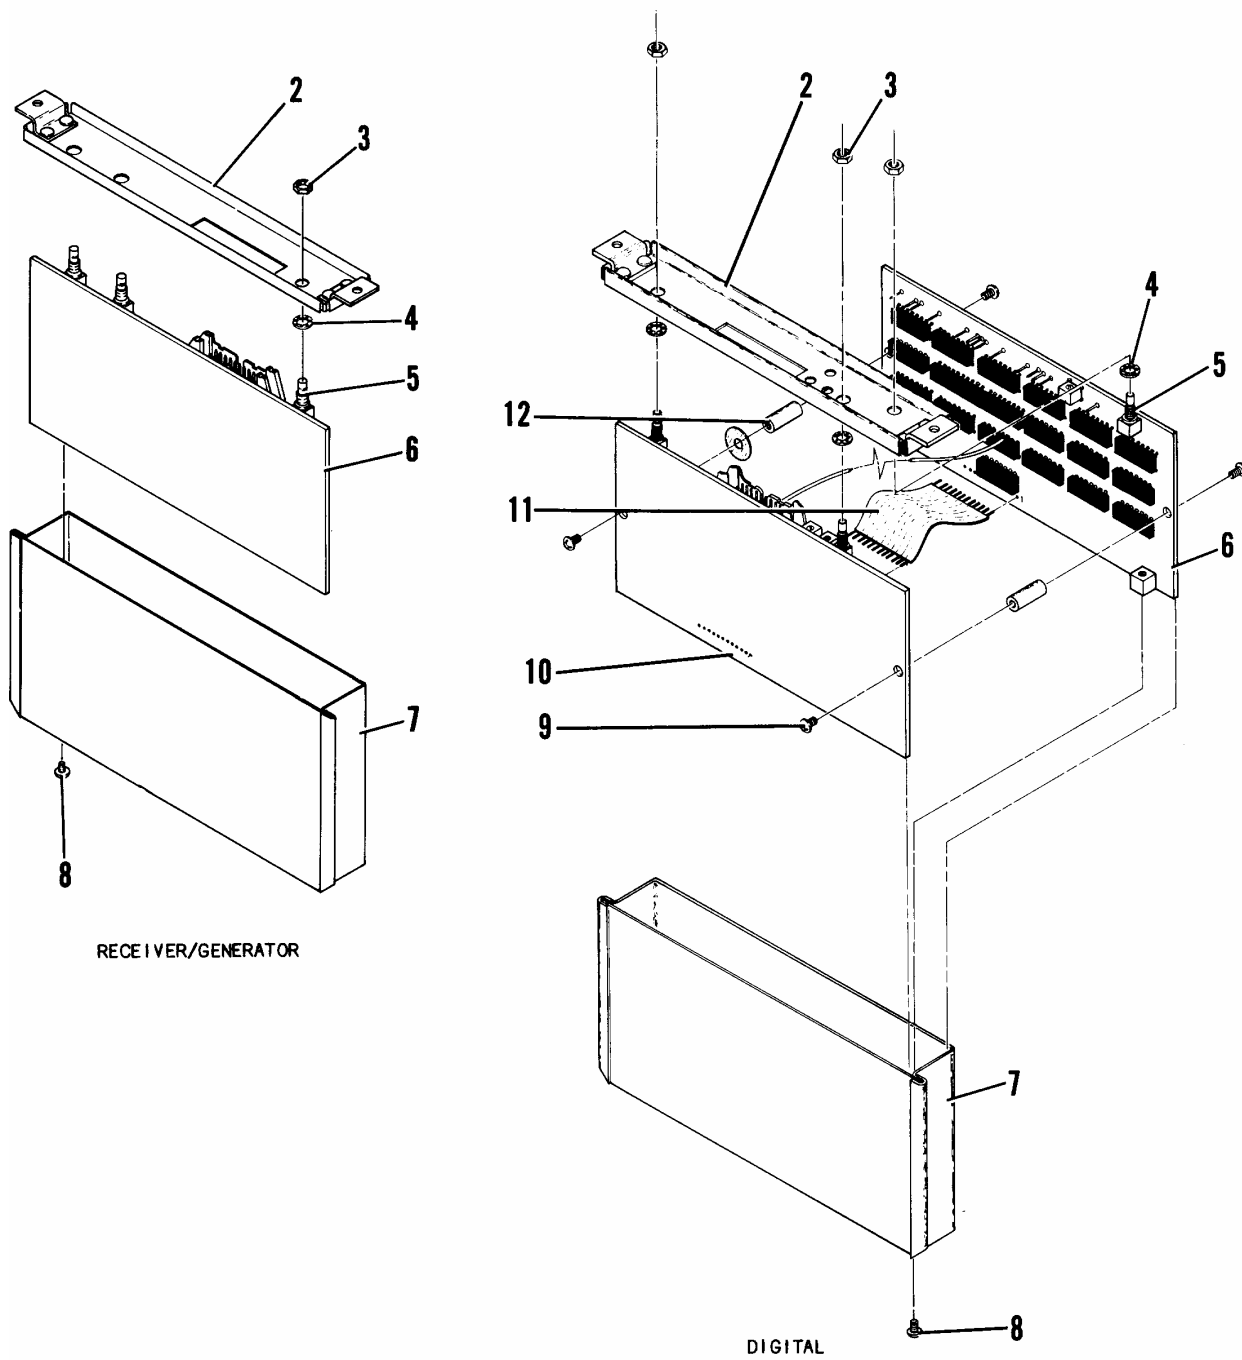

Figure 6-3 Enclosed Module Assemblies
B. Disassembly (Figure 6-3)
1. Remove nut (3) securing each coax connector (5) to top panel (2).
2. Remove all screws (1) securing top panel (2) to PC board assembly (6). Lift top panel from canister (7) and remove lock washers (4) from coax connectors (5).
3. Remove two screws (8) securing PC board assembly (6) to bottom of canister (7). Lift PC board assembly from canister.
4. To separate the paired PC boards of the High Loop Synthesizer and Digital Modules, remove two screws (9) securing PC boards (6, 10) to spacers (12), then unsolder flex strip (11) from each board.